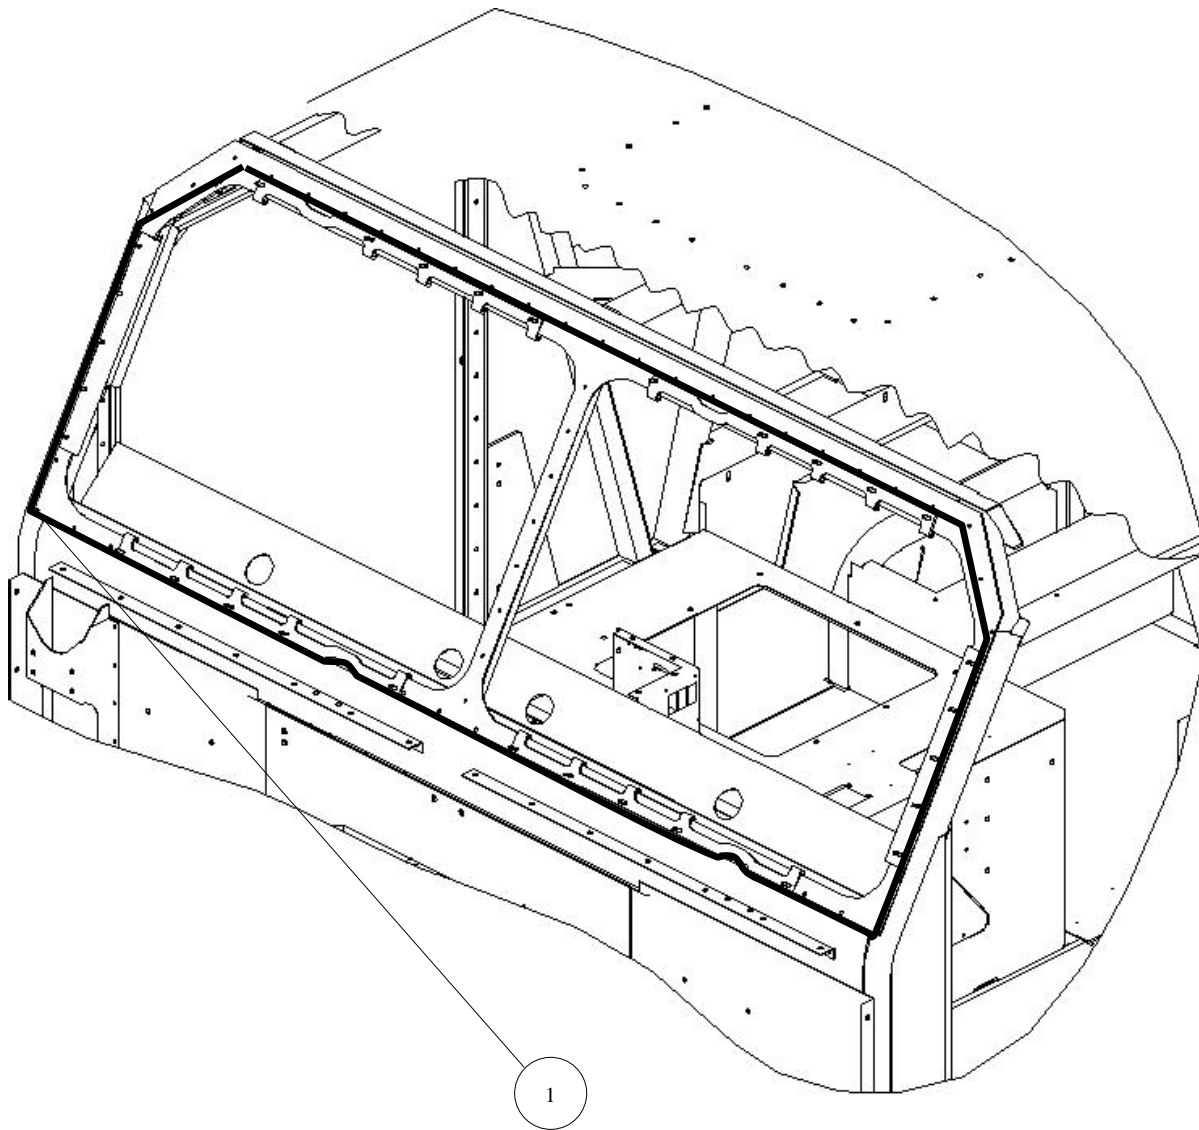

Figure 3-5. Apply Rubber Seal to Windshield Armor Panel.
4. Apply rubber seal to windshield armor panel as follows (see Figure 3-5):
- a. Apply rubber seal (1) onto outside surface of cab windshield frame panel. (the total used will be approx. 20 ft 6 in.) Run stripping along edge of windshield bracket but not on top of them. The seal will make continuous 45-deg bends in the upper left and right corners, but should be cut in the lower left and right 90-deg corners. Use black urethane sealant around windshield wiper studs, if necessary.